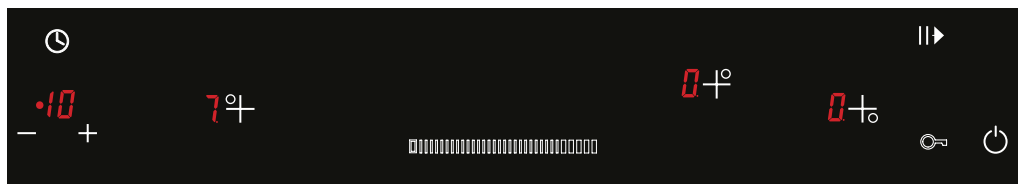
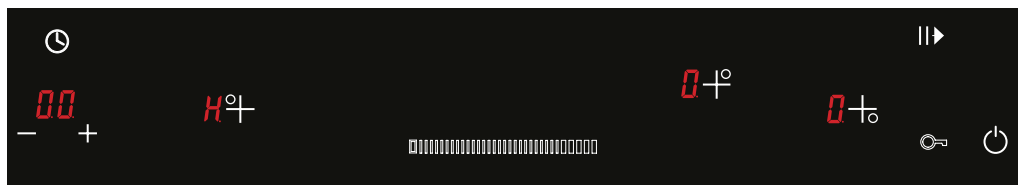

Figure 10
Figure 11
3. Relevant hob may be turned off by setting a timer. (See Fig. 10) When the time has expired, the timer flashes for 10 seconds and the hob set by the timer automatically switches off with a beep (See Fig. 11)
**WARNING:** On the figure above (Fig. 10), a 10-minute cooking period is set at 7 temperature level for the left hob as an example. A cooking period between 1 and 99 minutes may be set at the desired temperature level for the desired hob.